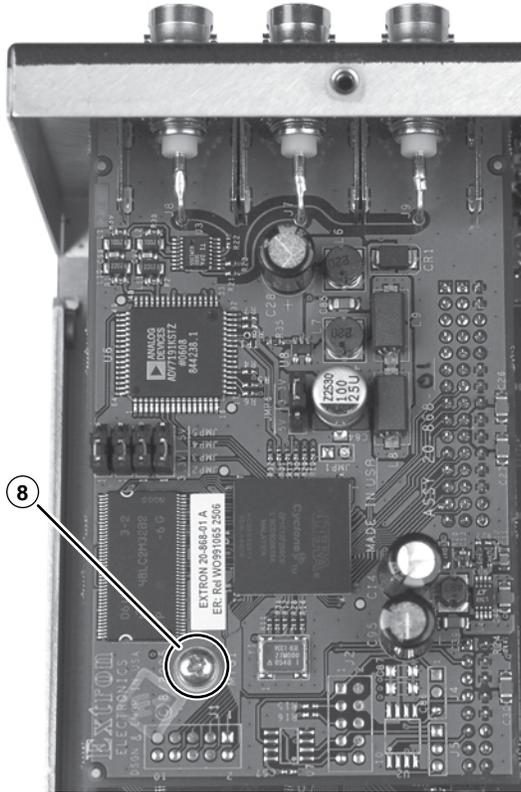

Figure 7-10 — Secure the output board to the standoff
- See figure 7-10. Secure the output board to the standoff on the main board with the included screw (8).